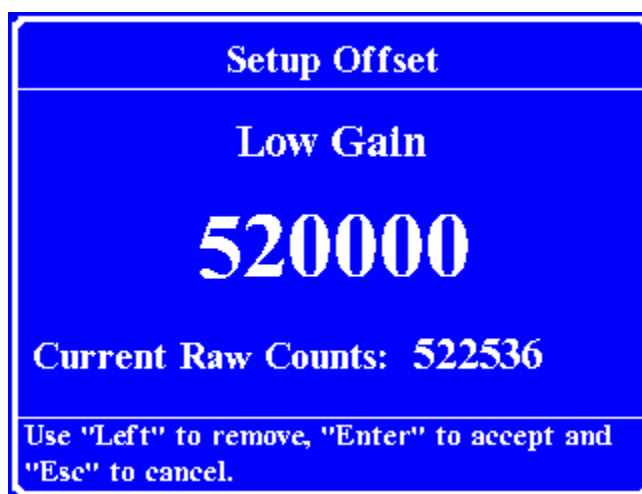

Figure 5-16. Detector Offset Setup Screen
2. Use the ← key to go to the Offset (Low, Med, High) Gain item and press Enter to open the Setup Offset screen. See figure 5-16.